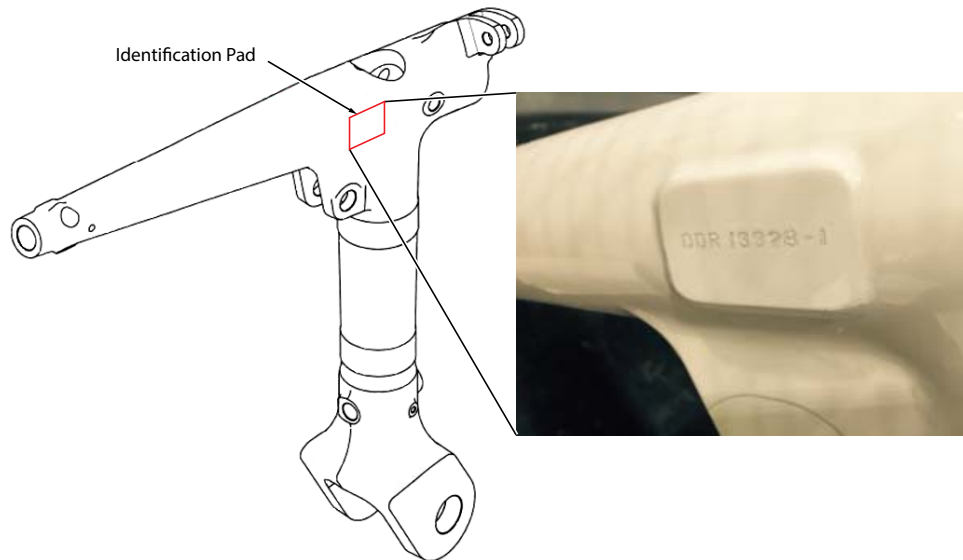

Figure 2. Trunnion Identification Pad Area
- (1) Review log book entries, proceed based upon the following:
- (a) If trunnion was replaced per TSR from EAI, POST SB 550-32-012, and contains a Service Bulletin (SB) number and/or a DDR# as shown in Figure 2, complete compliance record and return to EAI. No further work under this SB is required.
- (1) Perform the following to repair the trunnion:
- (1) Ensure the replacement trunnion contains at least one of the following (Refer to Figure 2):